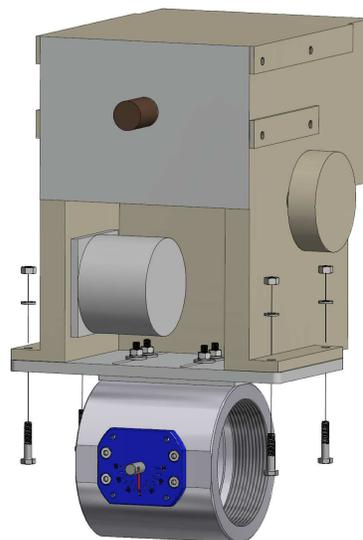

Figure 4: Actuator Installation
4. Place the HercuLine actuator on top of the actuator mounting bracket so that the four mounting holes on the actuator line up with the four holes in the mounting bracket. Using a 7/16" open end wrench (or crescent wrench), the (4) 1/4"-20 x 1-1/4" hex head cap screws, the (4) 1/4" split lock washers, and the (4) 1/4"-20 hex nuts, fasten the HercuLine actuator to the actuator mounting bracket as shown in Figure 4.